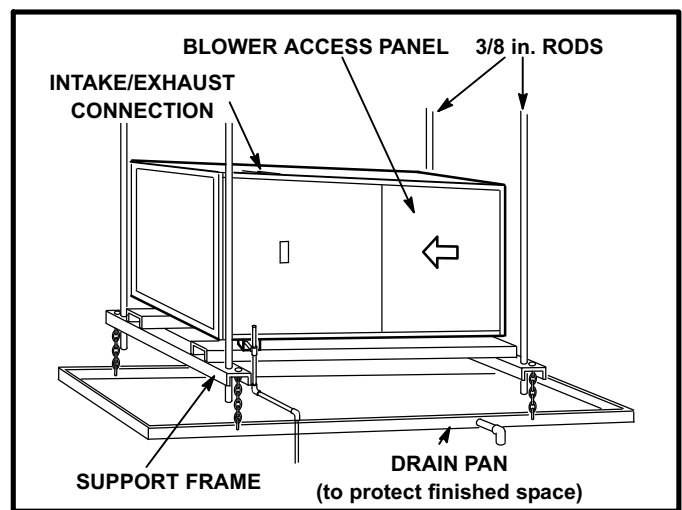
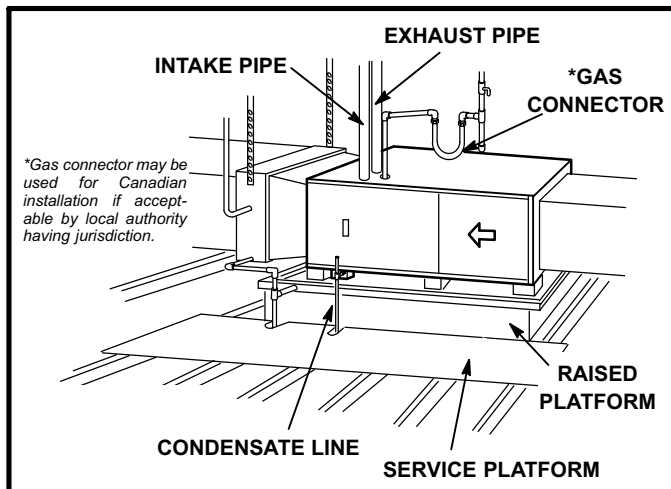

FIGURE 18
FIGURE 19
The G51MP may also be installed as a unit heater. Either suspend the furnace as shown in figure 18, or install the furnace on a field-fabricated raised platform. The unit must be supported at both ends and beneath the blower deck to prevent sagging.
- 5 - Mount unit on support frame as shown in figure 18.
- 7 - If unit is suspended above finished space, hang the field-provided drain pan below the support frame as shown in figure 18. Leave 5-1/2 inches for service clearance below unit for condensate trap.
- 4 - Set unit in drain pan as shown in figure 19. Leave 5-1/2 inches for service clearance below unit for condensate trap.
The G51MP may also be installed as a unit heater. Either suspend the furnace from roof rafters or floor joists, as shown in figure 18, or install the furnace on a field-fabricated raised platform, as shown in figure 19. The unit must be supported at both ends and beneath the blower deck to prevent sagging.